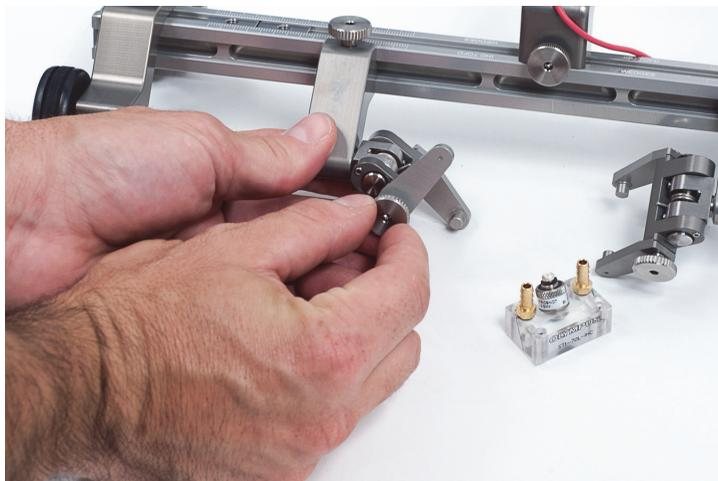

Figure 1-5 Loosening yoke thumbscrew
3. Loosen the yoke thumbscrew (see Figure 1-5 on page 12).